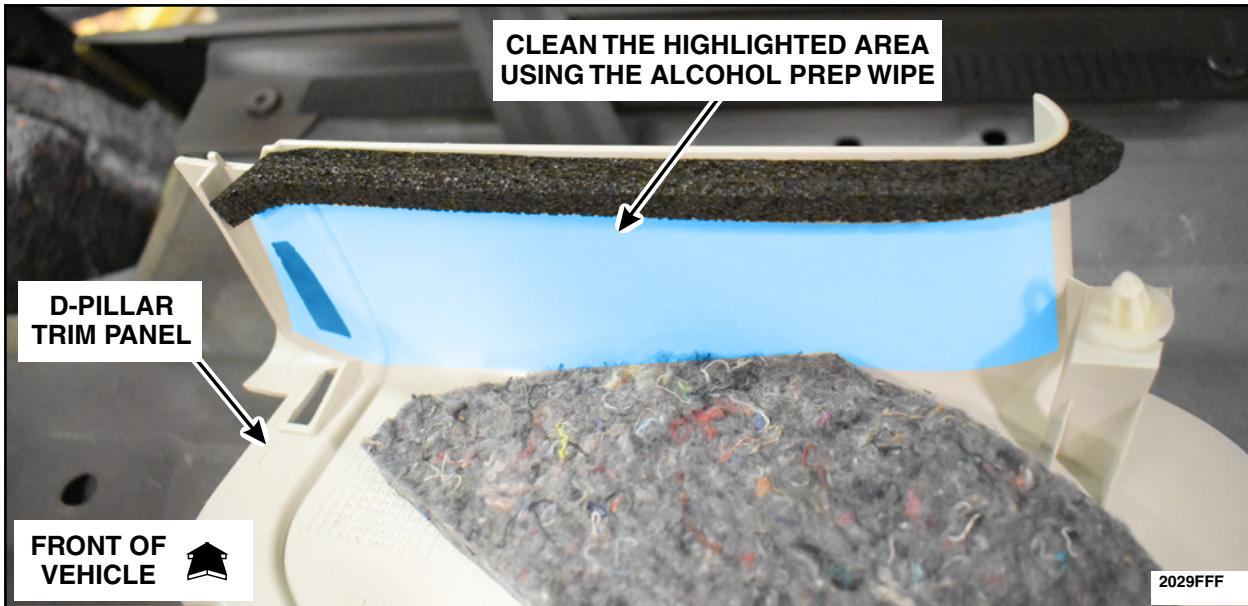

FIGURE 2
4. Using the kit supplied alcohol prep wipe, clean the interior of the D-pillar trim panel shown and allow the alcohol to dry for 30 seconds. See Figure 2.